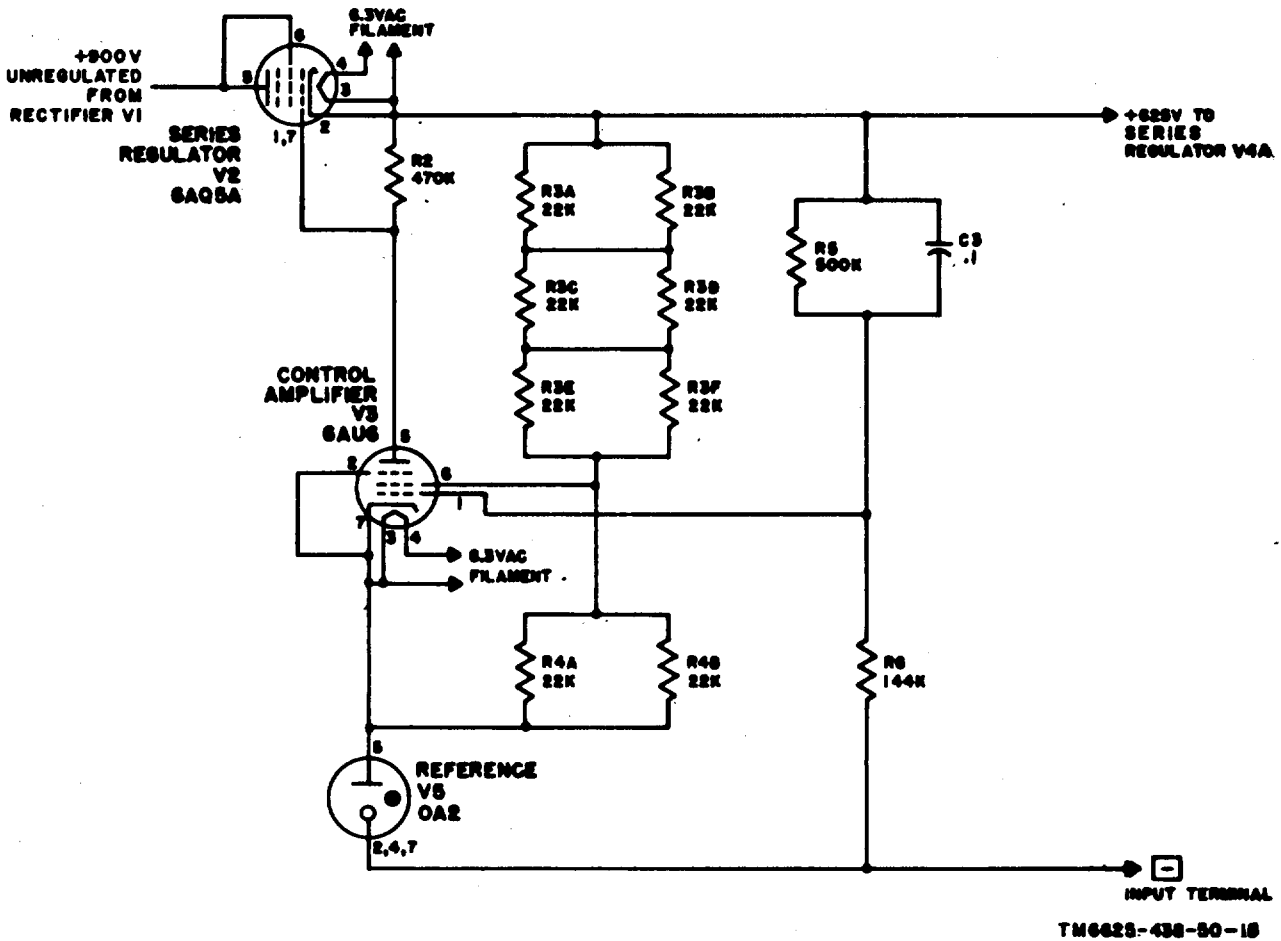

Figure .4-7. 0- to 500-volt reference power supply, first series regulator, schematic diagram.
4-4. Reference Power Supply 0- to 500-Volt (figs. 4-7, 4-8, and 9-5)
b. *First Series Regulator* (fig. 4-7). The first series regulator consists of series regulator tube V2, control amplifier tube V3, and reference tube V5. The plate voltage for tube V2